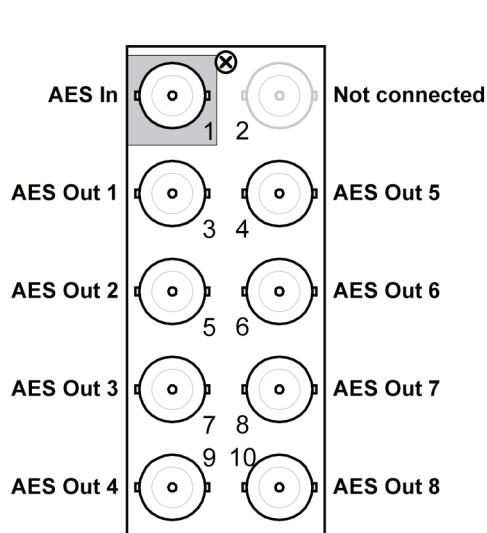

Figure 4. Cable Connections for the DFR-8320 frames with the R2A-8401 Rear Module
- **R2A-8401 Full Rear Module** — Each card occupies two slots and provides one AES input and eight outputs. Refer to **Figure 4** for cable connections.